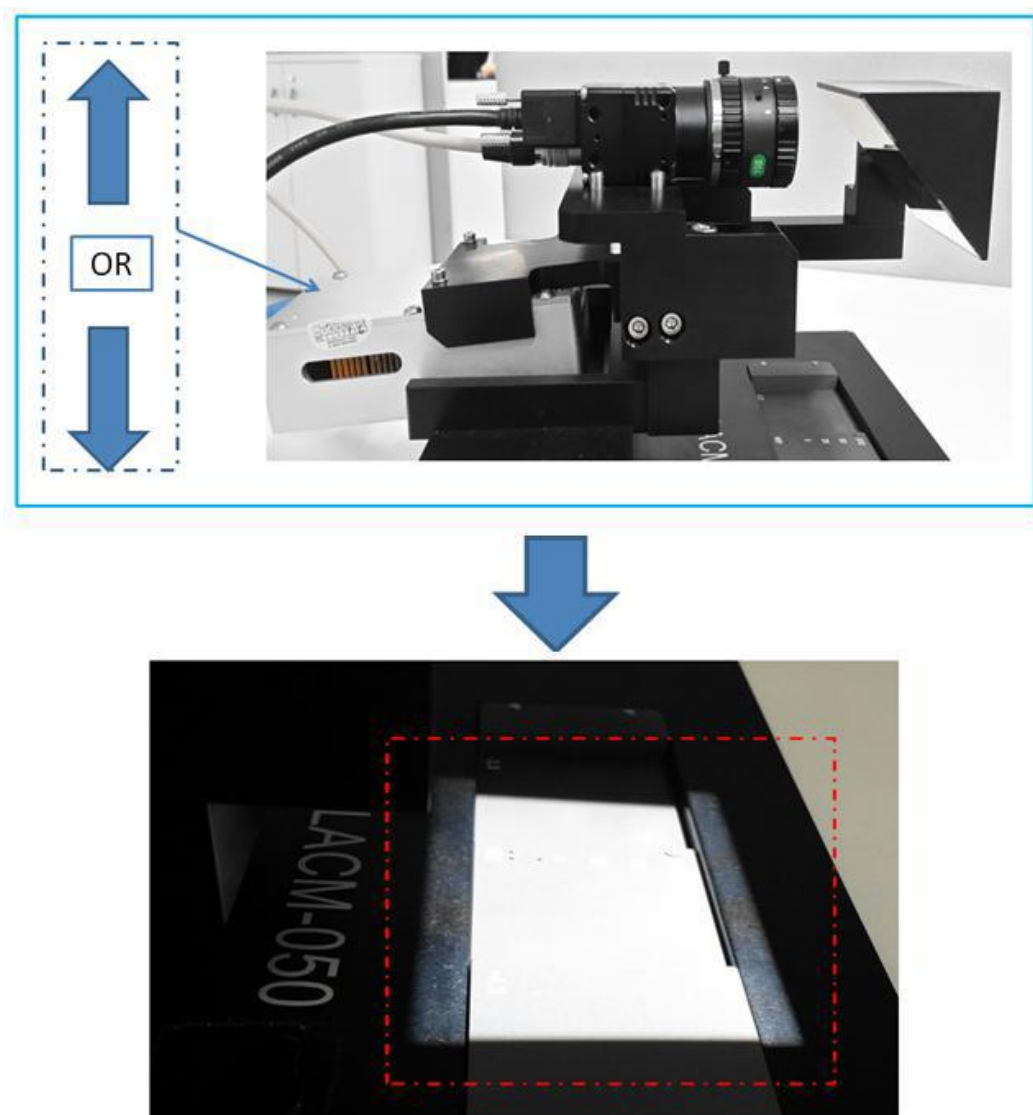

Figure 38 White Light Projection Coverage Area
37. Adjust the Projector angle until white light projection is fully covered on the adjustment plate as below Figure 38.